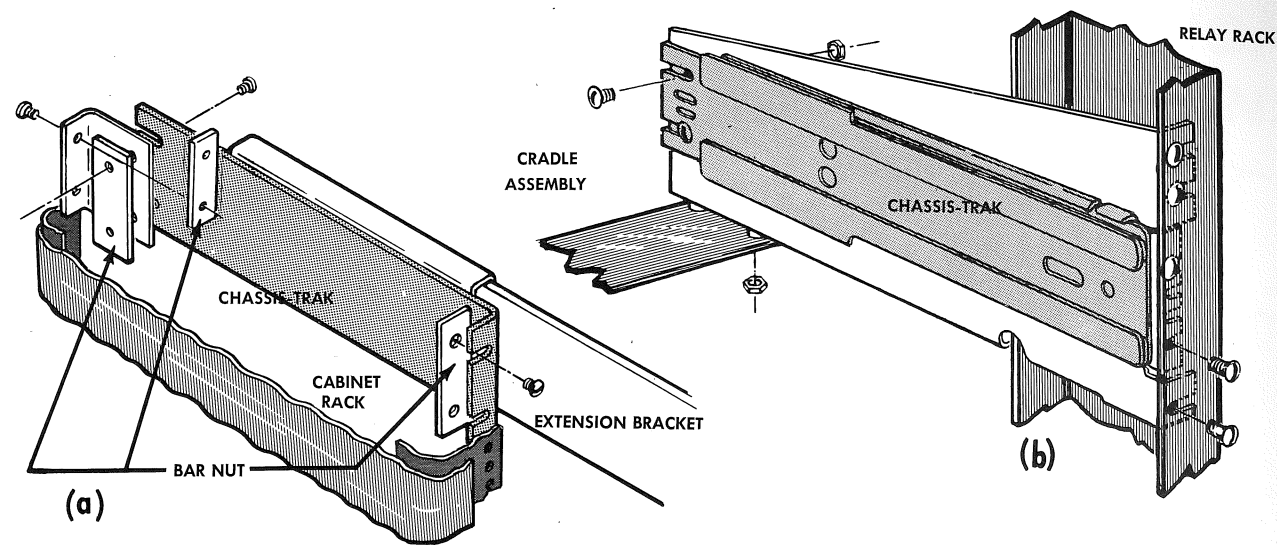

Fig. 2-4. Mounting the Chassis-Trak slides. (a) The Chassis-Trak installed in a cabinet rack. (b) The Chassis-Trak installed in a relay rack.
3. Slip the front lip of the Chassis-Trak between the cabinet and the bar nut as shown in Fig. 2-4(a).
5. In some types of cabinets, you may need the extension brackets furnished with the Chassis-Traks. Fig. 2-4(a) shows how to assemble the extension brackets furnished with each set of tracks.
1. Bolt the rear of the Chassis-Trak to the rear of the corresponding cradle section using the 10/32 nuts and bolts provided as shown in Fig. 2-4(b).
3. Using Fig. 2-4 as a guide, assemble the cradle and Chassis-Trak on the corresponding rails of the relay rack, allowing 2 inches between the center of the top mounting screw and position you selected for the top of the 526 front panel.